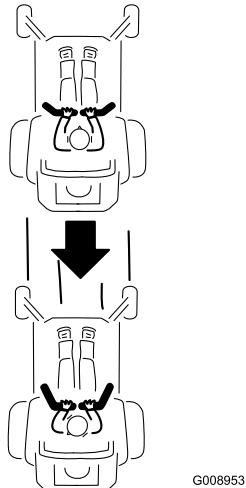

Figure 21
2. To go backward, look behind you and down, as you slowly pull the motion-control levers rearward (Figure 21).
To go straight, apply equal pressure to both motion-control levers (Figure 21).